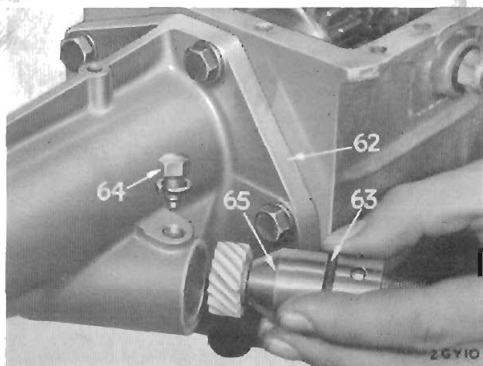

Fig. 49.
Insert the drive gear assembly into the rear extension, aligning the location hole with the corresponding hole in the extension. Insert and tighten the peg bolt (64) and spring washer as shown in Fig. 49.